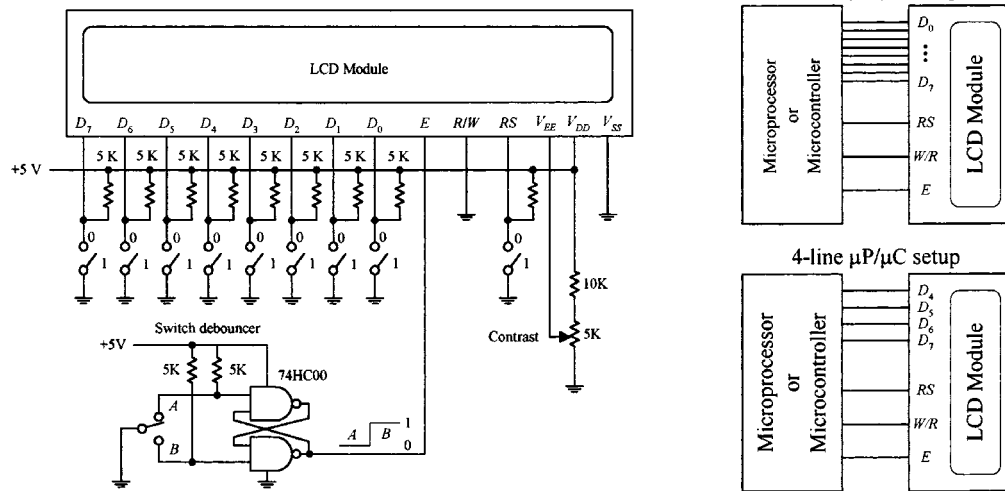

FIGURE I.19
Figure I.19 shows a simple test circuit that is quite useful for learning how to send commands and character data to the LCD module. (In reality, the LCD module is connected to a microprocessor or microcontroller, as shown to the left in the figure. We'll discuss these interfaces later in this section.) In this circuit, switches connected to data inputs use pullup resistors in order to supply a high (1) when the switch is open or supply a low (0) when the switch is closed. The enable input receives its high and low levels from a debounced toggle switch. Debouncing the enable switch prevents the likelihood of multiple enable signals being generated. Multiple enable signals tend to create unwanted effects, such as generating the same character over and over again across the display. The 5-k Ω pot is used for contrast. Note that in this circuit we've grounded the *R/W* line, which means we'll only deal with writing to the display.
The 4-bit transfer is frequently used when the LCD module is interfaced with a microcontroller that has limited I/O lines. See Fig. I.19.